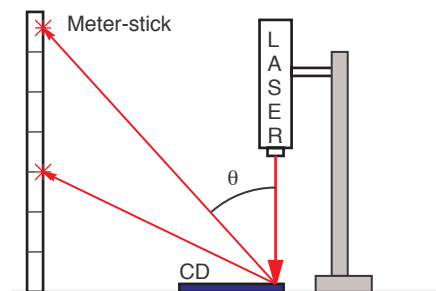

Figure 7
- A. Set up Figure 7 to help measure the *reflection* diffraction pattern from a CD. Be careful setting this up and make sure the laser is reflecting towards the nearest wall and not out where it can hit other people.